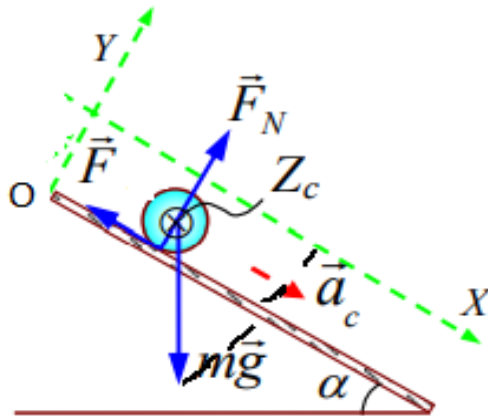

Fig. D.8. A cylinder rolls down an inclined plane
Problem. A cylinder rolls down an inclined plane. Find the acceleration of the centre of its mass and its final velocity. Assume that the cylinder rolls down without slipping (see Fig. D.8).
Choose a coordinate system to simplify the application of Newton's law. Let one axis lie along the surface of the board (OX) and the other perpendicular to it (OY) (Fig. D.8). This coordinate system is convenient because the sum of forces along the Y-axis is zero, and the body moves only along the OX axis.